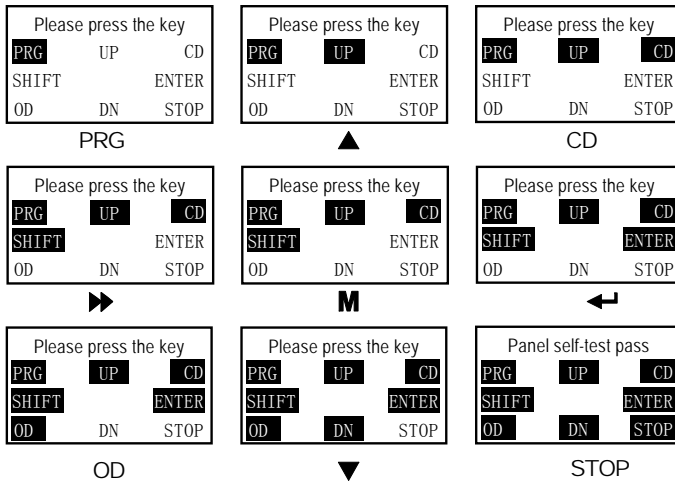

Figure 3-32 Correct correspondence of the keys and the displays
2. Press any key of the panel and if the state is in anti-color display, it means the key is valid. And the correct correspondence is as shown in Figure 3-32.